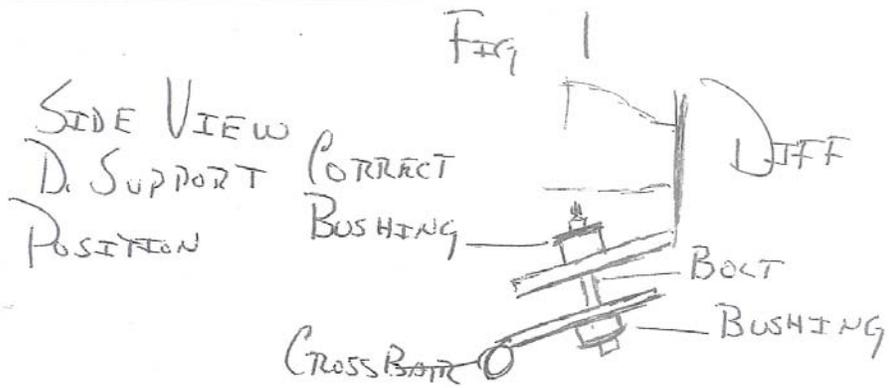

Fig 2
- 9) Slide the large factory washer BETWEEN the Support mounting flange, and the lower bushing, then slide the bolt through both, sandwiching the washer. See Figure 2.